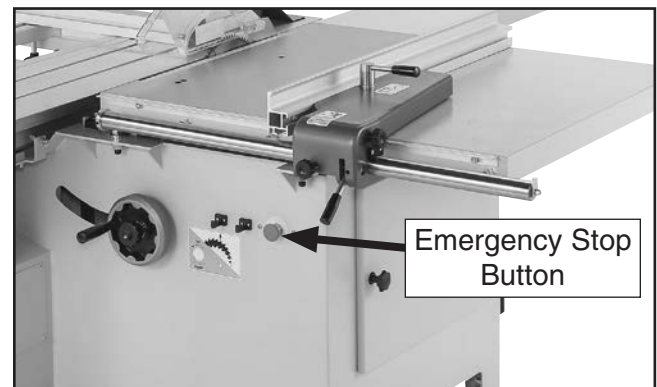

Figure 63. Emergency Stop on cabinet.
10. Repeat **Steps 7–9** with Emergency Stop button on rear of cabinet (see **Figure 63**).